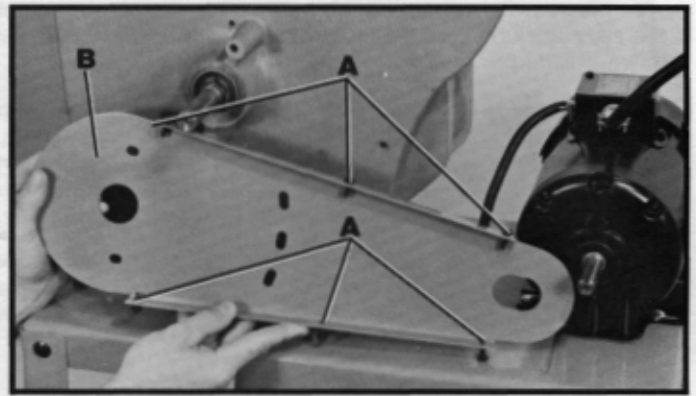

Fig. 14
1. Thread the six self-tapping screws (A) Fig. 14, about half way into the six holes provided in the ledge of the inside belt and pulley guard (B) as shown.